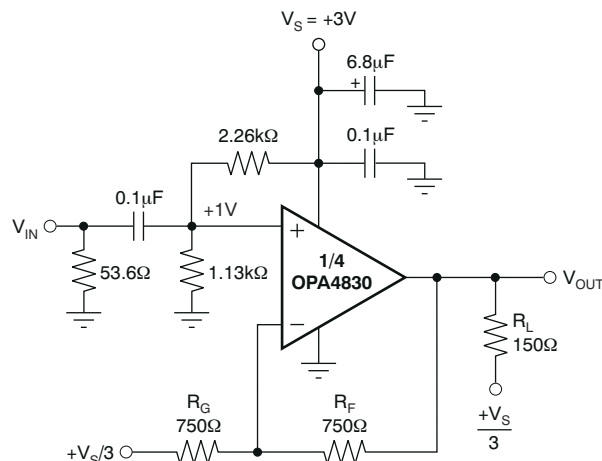
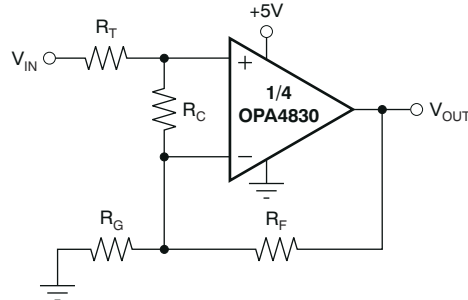

Figure 8-2. AC-Coupled, $G = +2V/V$, $+3V$ Single-Supply Specification and Test Circuit
Figure 8-7. Compensated Noninverting Amplifier
at $T_A = 25^\circ C$, $G = +2V/V$, and $R_L = 150\Omega$ to $V_S/3$ (unless otherwise noted); see also Figure 8-2
at $T_A = 25^\circ\text{C}$, $G = +2V/V$, and $R_L = 150\Omega$ to $V_S/3$ (unless otherwise noted); see also Figure 8-2
Figure 8-2 shows the ac-coupled, gain of $+2V/V$ configuration used for the $+3V$ electrical and typical characteristics. For test purposes, the input impedance is set to 50Ω with a resistor to ground. Voltage swings reported in the *Electrical Characteristics* $V_S = 3V$ are taken directly at the input and output pins. For the circuit of Figure 8-2, the total effective load on the output at high frequencies is $150\Omega \parallel 1500\Omega$. The $1.13k\Omega$ and $2.26k\Omega$ resistors at the noninverting input provide the common-mode bias voltage. The parallel combination equals the dc resistance at the inverting input (R_F), reducing the dc output offset as a result of input bias current.
Figure 8-7 shows a noninverting amplifier that reduces peaking at low gains. The resistor R_C compensates the OPA4830 to have higher noise gain (NG), which reduces the ac response peaking (typically 5dB at $G = +1V/V$ without R_C) without changing the dc gain. V_{IN} needs to be a low-impedance source, such as an op amp. The resistor values are low to reduce noise. Using both R_T and R_F helps minimize the impact of parasitic impedance.
Frequency response in a gain of $+2V/V$ can be modified to achieve exceptional flatness simply by increasing the noise gain to $3V/V$. One way to do this, without affecting the $+2V/V$ signal gain, is to add a $2.55k\Omega$ resistor across the two inputs (see Figure 8-7). A similar technique can be used to reduce peaking in unity-gain (voltage follower) applications. For example, by using a 750Ω feedback resistor along with a 750Ω resistor across the two op amp inputs, the voltage follower response is similar to the gain of $+2V/V$ response of Figure 8-2. Further reducing the value of the resistor across the op amp inputs further dampens the frequency response because of increased noise gain. The OPA4830 exhibits minimal bandwidth reduction going to single-supply ($+5V$) operation as compared with $\pm 5V$. This minimal reduction is because the internal bias control circuitry retains nearly constant quiescent current as the total supply voltage between the supply pins changes.
The criterion for setting this R_S resistor is a maximum bandwidth, flat frequency response at the load. For a gain of +2, the frequency response at the output pin is already slightly peaked without the capacitive load, requiring relatively high values of R_S to flatten the response at the load. Increasing the noise gain also reduces the peaking (see Figure 8-7).